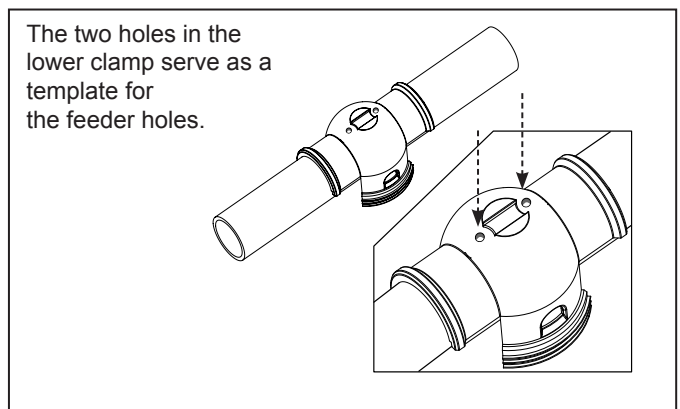

Figure 6. Marking Pipe for Drilling Feeder Holes
7. Invert the lower clamp and place on the pipe. Mark the pipe for drilling the feeder holes (see Figure 6).